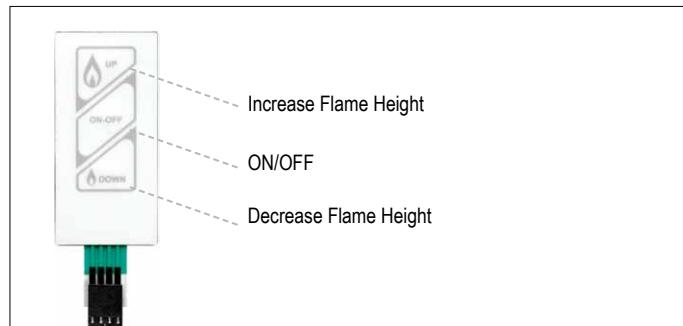

Figure 19: Touchpad/Wall Switch
- Press button **ON-OFF** button (see figure 19) until a short beep confirms the start sequence has begun; release button.